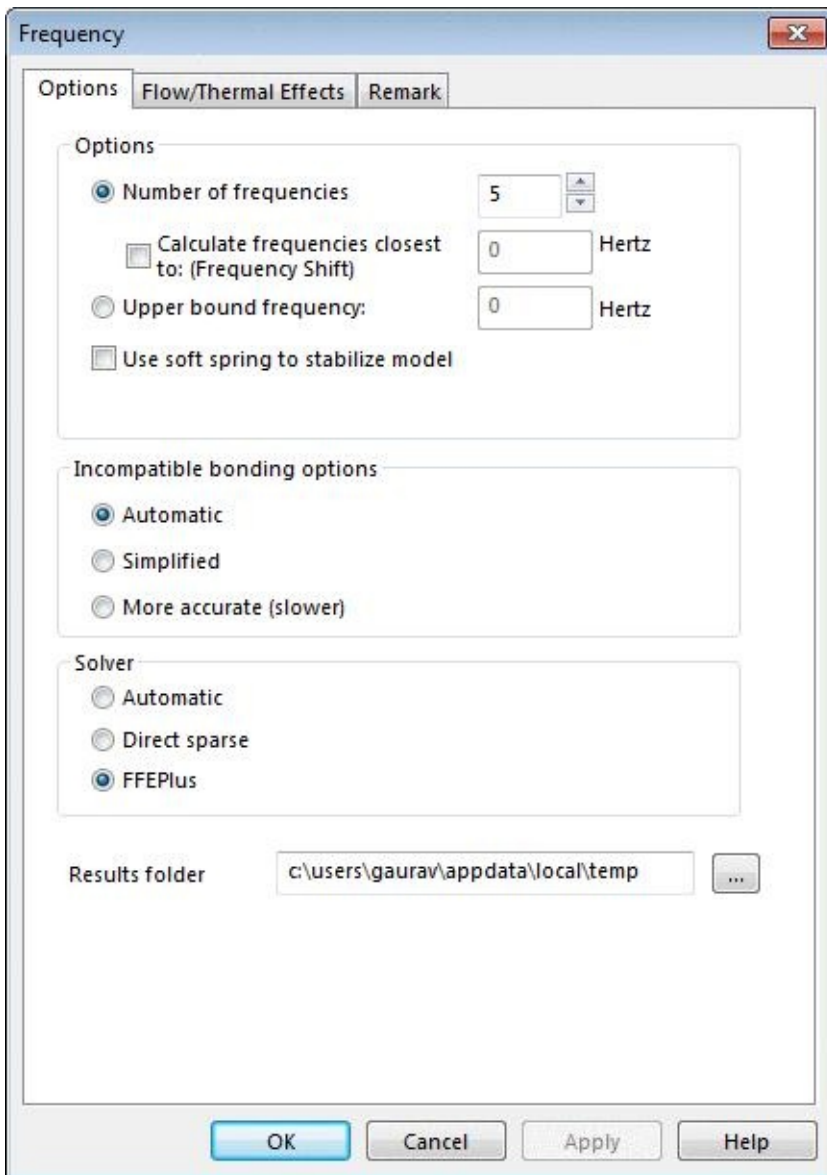

Figure-5. Frequency dialog box
- Click on the **Properties** button from the shortcut menu. The **Frequency** dialog box will be displayed; refer to Figure-5.